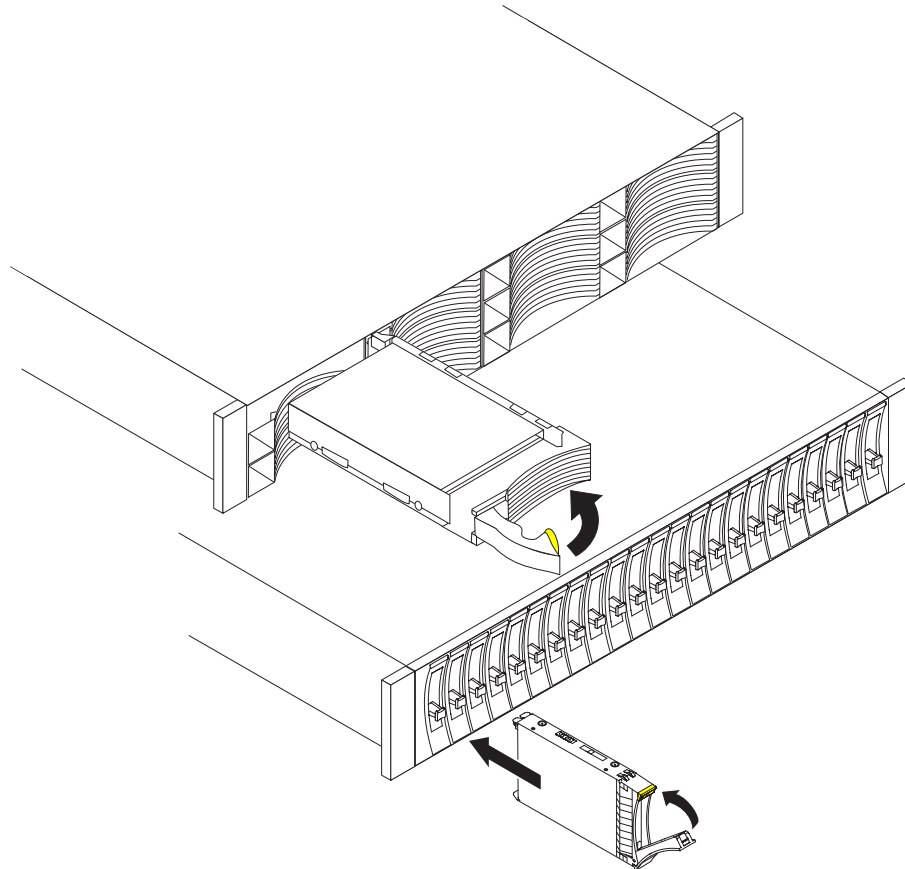

Figure 25. Installing a drive
4. Install the drive in the empty slot as shown in Figure 25.